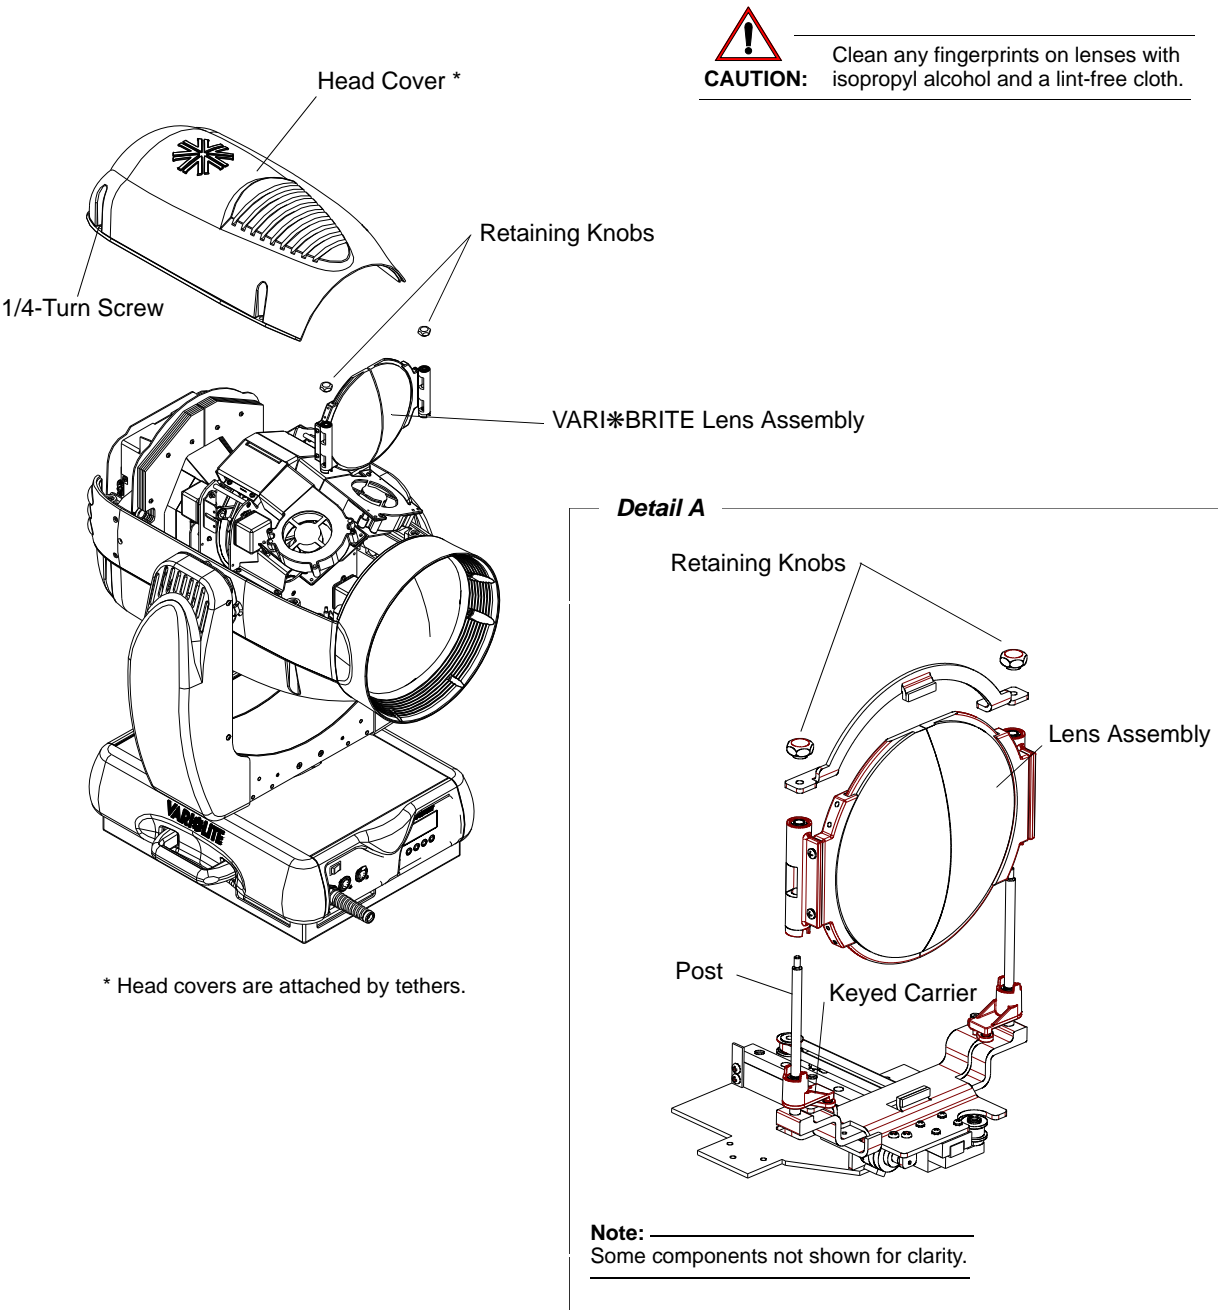

Figure A-3: VARI*BRITE Lens Replacement
Step 3. As shown in Figure A-3, remove appropriate head cover by loosening four 1/4-turn screws.
CAUTION: As shown in **Detail A** in Figure A-3, insure that the lens assembly is aligned and fits properly into keyed carrier.